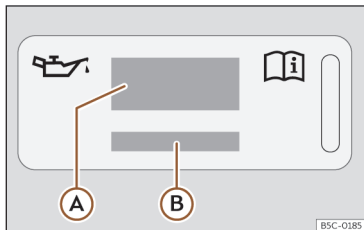
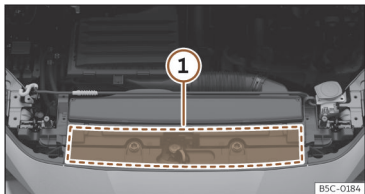

Fig. 227 In the engine compartment: engine oil label
Fig. 228 In the engine compartment: area where the engine oil label is located
Key to >>> **Fig. 227:**
If the engine oil has to be topped up, use one of the oils shown on the label >>> **Fig. 227**. The label with the prescribed standard is located at the front of the engine compartment >>> **Fig. 228** **1**. If you use the recommended engine oil, you can top up the oil as often as necessary.
- If the label showing the engine oil specifications is missing >>> Fig. 227, please contact a specialist workshop.